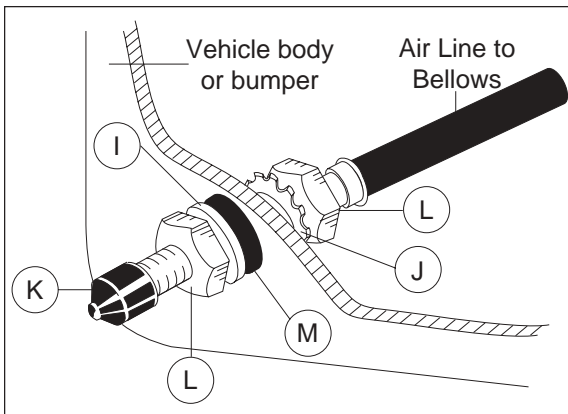

Figure 12
4. Install the inflation valves as shown in Figure 12.